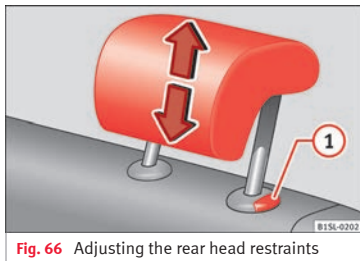

Fig. 66 Adjusting the rear head restraints
- Push the head restraint up or down in the direction of the arrow with the button pressed » Fig. 66 ① » ⚠.